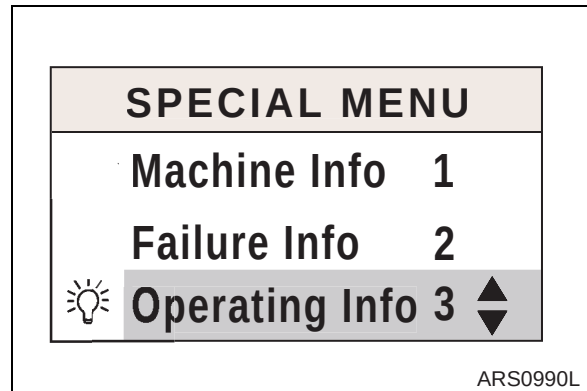
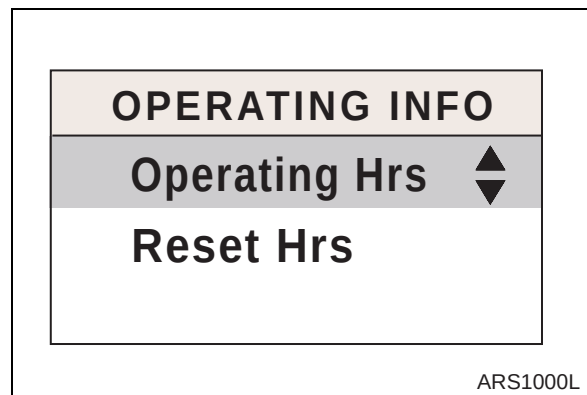

Figure 37
Figure 38
- A. Entering Sub-menus: When a cursor is located in "Operating Info" of special menu screen (Figure 37) press enter button(↵, 3 on Figure 18) and "Operating Info" screen will be displayed (Figure 38).
- B. Information screen of machine operation (Figure 38).